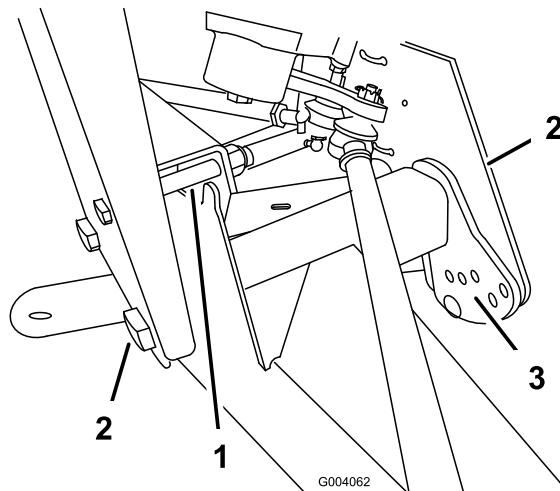

Figure 27
- Remove the travel limiting bolt (Figure 27).
- Loosen the centering bolts in the front A-arm (Figure 27).
- Remove the ride height adjustment bolt (Figure 27).
- Rotate the front A-arm to the desired position (refer to the note below) and replace the ride height adjustment bolt (Figure 27).
7. Replace the travel limiting bolt (Figure 27).